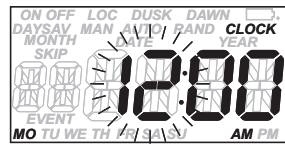

Fig. 1
2. The display will initialize itself, then flash “12:00 AM” in the **CLOCK** mode (Fig. 1).
1. Ensure that the timer is in the **CLOCK** mode (Fig. 1). If it is not, press the **MODE** button a few times (through **MANual**, **AUTO** and **RANDom**) until **CLOCK** shows in the mode display area, then press **OK**.